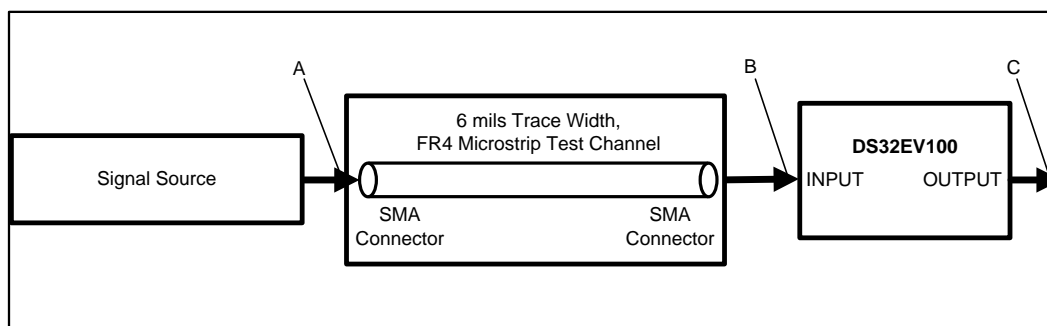

Figure 2. Test Setup Diagram
(4) Measured with clock-like {11111 00000} pattern.
(5) Specification is guaranteed by characterization at optimal boost setting and is not tested in production.
(6) Deterministic jitter is measured at the differential outputs (point C of Figure 2), minus the deterministic jitter before the test channel (point A of Figure 2). Random jitter is removed through the use of averaging or similar means.
(7) Random jitter contributed by the equalizer is defined as $\sqrt{J_{OUT}^2 - J_{IN}^2}$. J_{OUT} is the random jitter at equalizer outputs in ps_{rms}, see point C of Figure 2; J_{IN} is the random jitter at the input of the equalizer in ps_{rms}, see Figure 2.